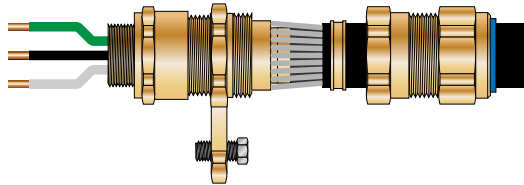

Figure 14: Typical earth bonding connector
4. Via armored cable and the use of a cable gland designed to allow a bonding jumper to be run between the gland and protective earth (see *Figure 14*).